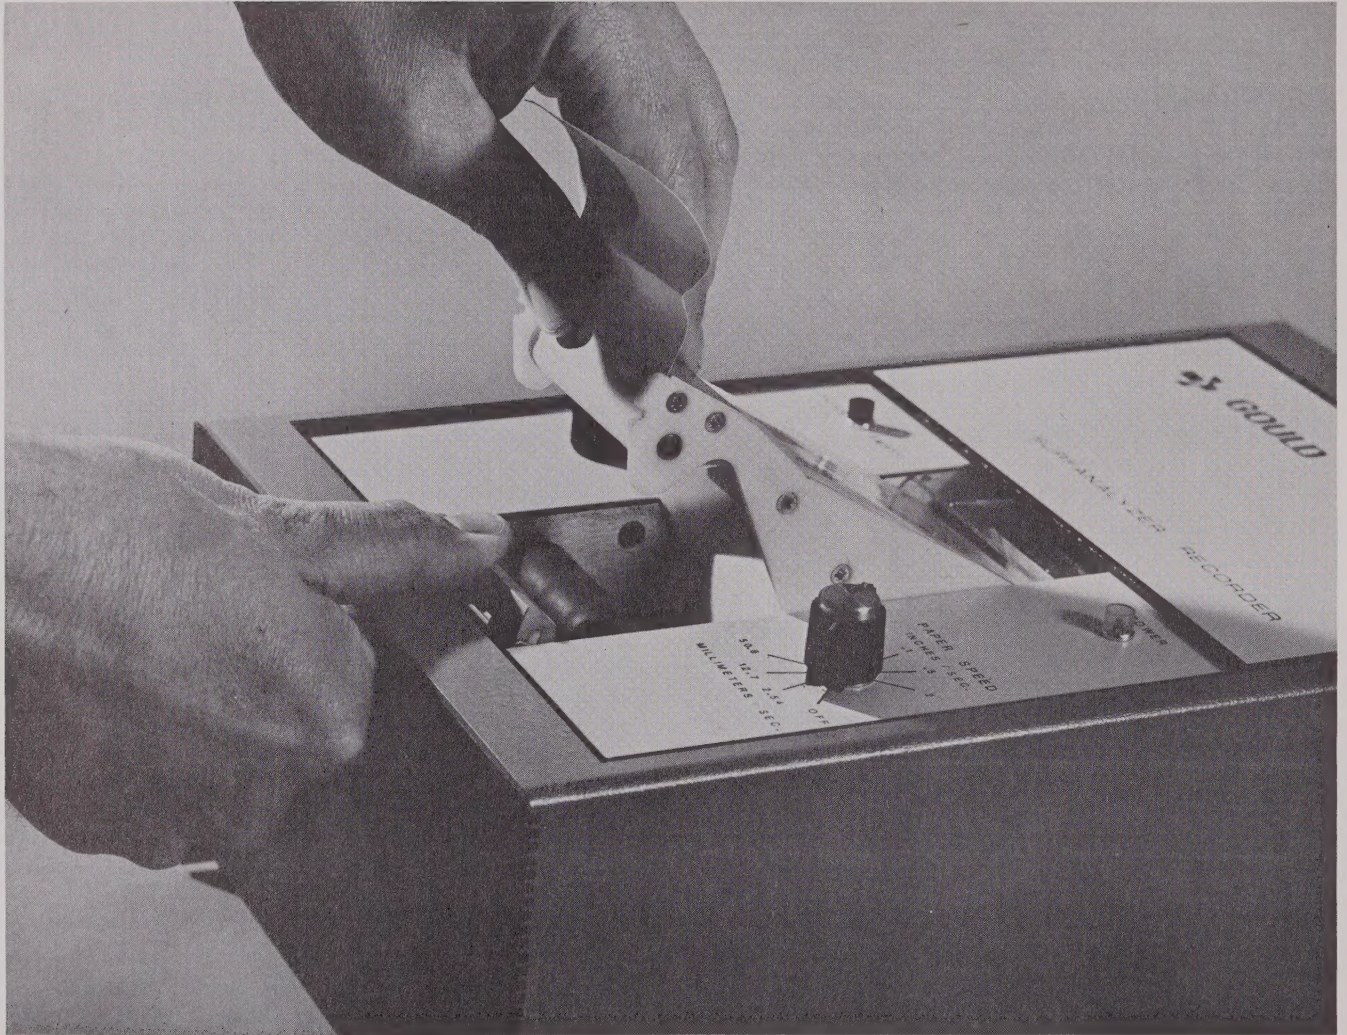

Figure 3.1.
2. Release writing table by depressing latching bar. Remove table from recorder. (See Figures 3.1 and 3.2.)